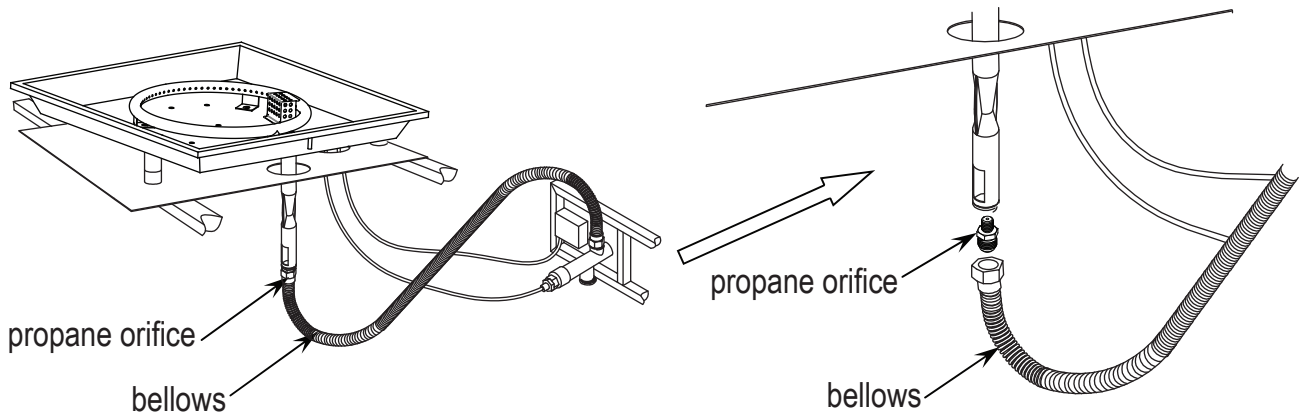

Figure 14
2. Unscrew and disconnect the propane orifice from the bellows (see Figure 14). Propane orifice (2.21 mm diameter size) is painted with red mark.